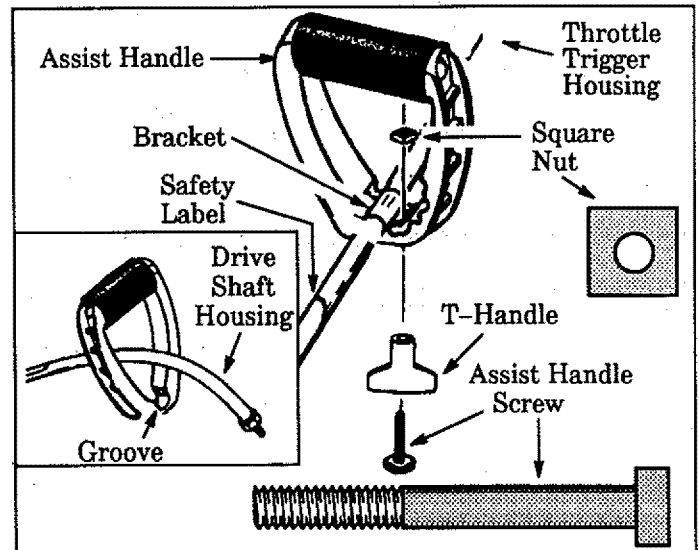

Figure 9
5. ASSIST HANDLE – Figures 9 & 10
- Insert the end of the Drive Shaft Housing through the Assist Handle. Figure 9 (inset).
- Align the Assist Handle between the Safety Label and the Throttle Trigger Housing. Seat the Drive Shaft Housing in the groove in the Assist Handle. Figure 9.
- Insert the tab on the Assist Handle Bracket into the slot on the Assist Handle. Figure 9. Then, lay the Assist Handle Bracket over the Drive Shaft Housing.
- Insert the Screw up through the hole in the Assist Handle and then through the Assist Handle Bracket. Figure 9.
CAUTION: When adjusting the Assist Handle for comfort, be sure that the Assist Handle remains between Engine and Safety Label on Drive Shaft Housing. Figure 9.